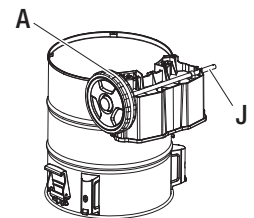

Fig. 2
- Place the axle (J) through the storage, and then install another wheel (A) on the other end of the axle (J). (Fig. 2)